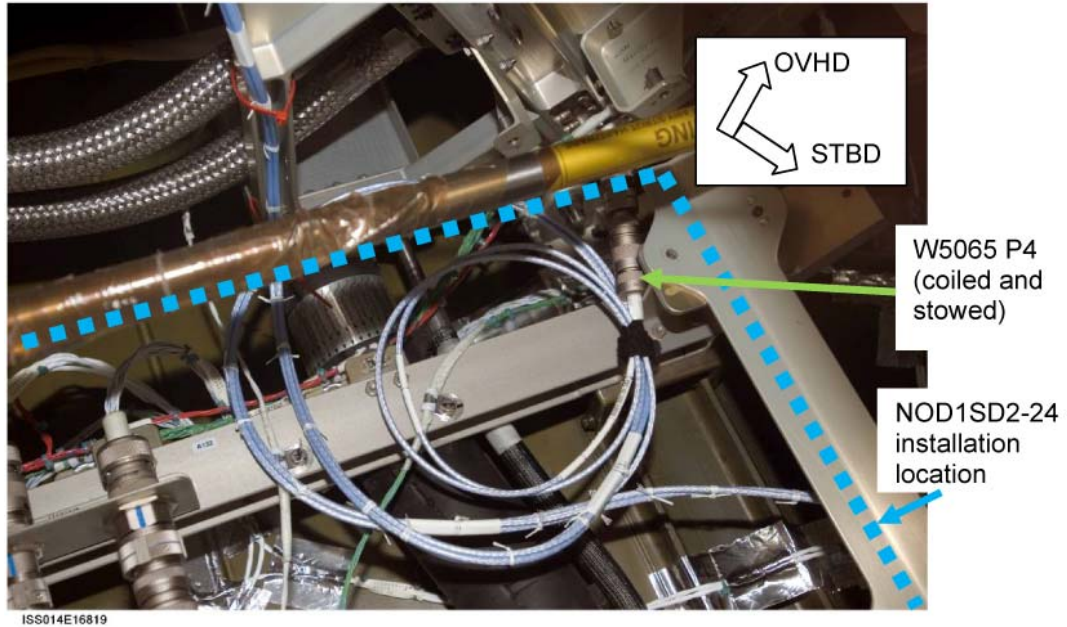

Figure 31.- W5065 Stowed in NOD1SD2 Area.
Refer to Figure 31.
- 15.36 Loosely restrain NOD1 Video/Audio Bus A Cable (W9423) on same routing path as W0205 in NOD1SD2 area as shown in Figure 31.